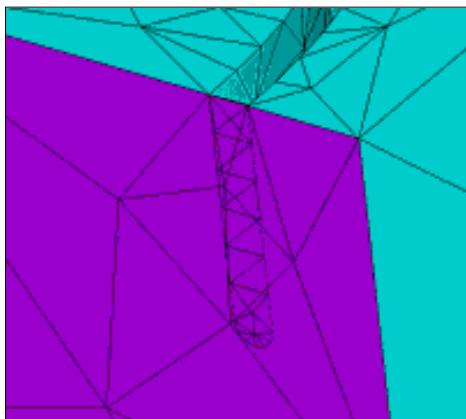

Figure 13. Area covering end of groove
7. **Mesh the volume.** At this point, several errors occurred. After using AMESH on all the areas, an error in the geometry was discovered. Figure 13 shows that the groove did not cut through the back surface of the block. ICEM had no problem, so I did not think to look for such things.